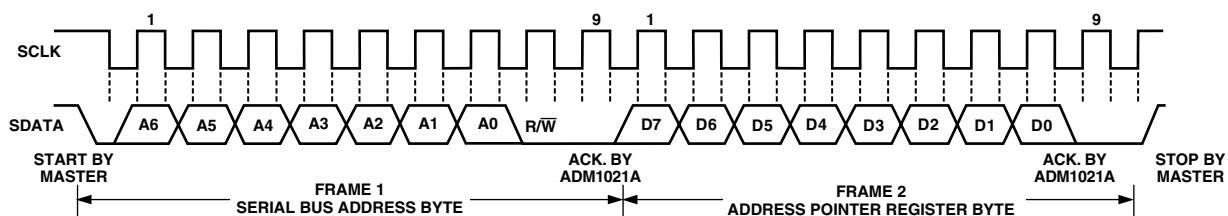

Figure 14. Writing to the Address Pointer Register Only
1. If the ADM1021A's Address Pointer Register value is unknown or not the desired value, it is first necessary to set it to the correct value before data can be read from the desired data register. This is done by performing a write to the ADM1021A as before, but only the data byte containing the register read address is sent, as data is not to be written to the register. This is shown in Figure 14.
2. If the Address Pointer Register is known to be already at the desired address, data can be read from the corresponding data register without first writing to the Address Pointer Register, so Figure 14 can be omitted.